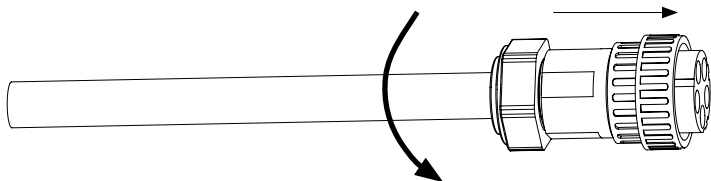

Figure 4-18
④ According to the arrow direction push the threaded sleeve to make it connected with the AC terminal head and then rotate the cable gland clockwise to lock it, as shown in figure 4-18: